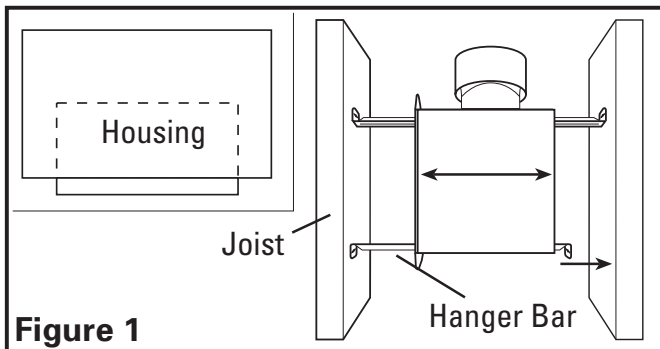
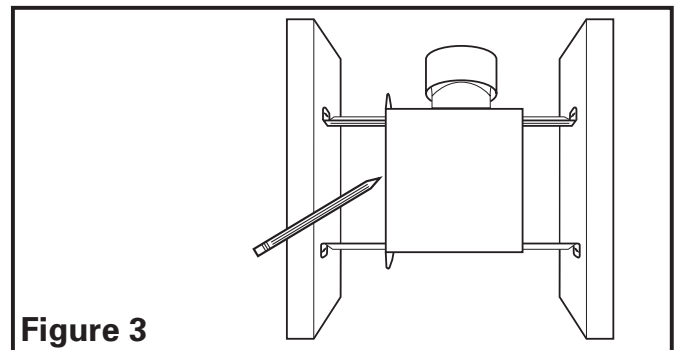

Figure 1
Figure 3
1. **Mounting Rail Installation:** Install the rails on the housing and position the housing next to the joist. Using the gauge on the fan's housing, line up housing so that it will be flush with the finished ceiling. Secure the ends of the rails with screws or nails (not included) to the joists and slide the housing into the final position (**Figure 1**).
- 1a. **Mounting Rail Installation:** Set housing in position between the joist and trace an outline onto the ceiling material (**Figure 3**). Set housing aside and cut opening, being careful not to cut or damage any electrical or other hidden utilities. Install the rails on the housing and position the housing in the previously cut hole so that it is flush with the finished ceiling. Secure the ends of the rails to the joists with nails or screws (not provided) (**Figure 1**).